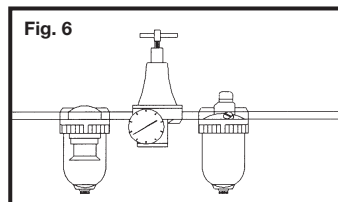

Fig. 6
**8. Use clean, dry, regulated, compressed air at 70 to 120 PSI, (4.8 to 8.3 BAR).** Fig. 6.